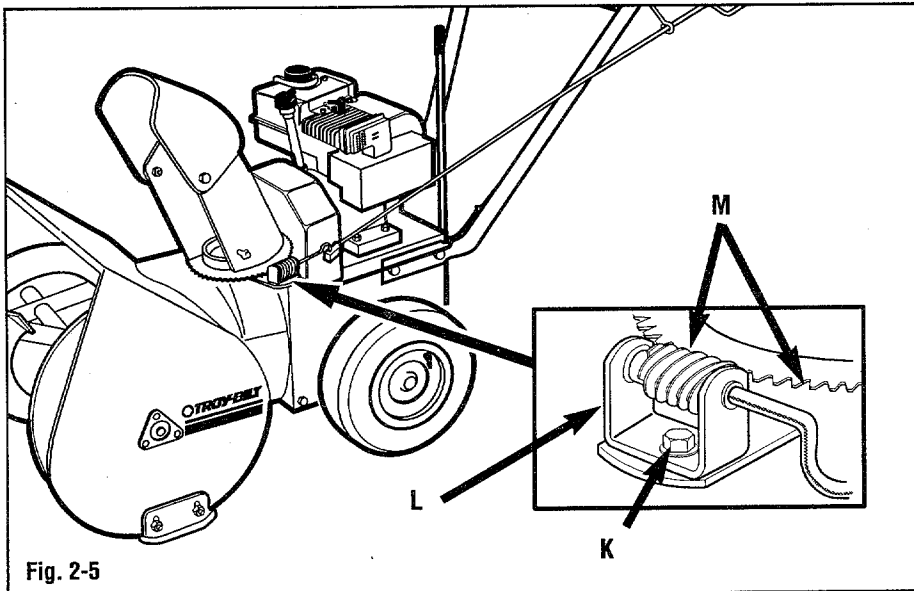

Fig. 2-5
1. Cut the tie securing the chute control crank bracket (L, Fig. 2-5). Remove the locknut backing screw (K).
2. Position the chute control crank bracket (L) on the auger housing so the worm gear meshes with the teeth in the discharge chute flange.
- a. Loosen the nut backing bolt (K, Fig. 2-5).
- b. Adjust bracket (L)-(push in to tighten; pull out to loosen).
- c. Retighten the nut backing bolt (K).
5. Apply multi-purpose grease to the worm gear and toothed edge of discharge chute flange (M).